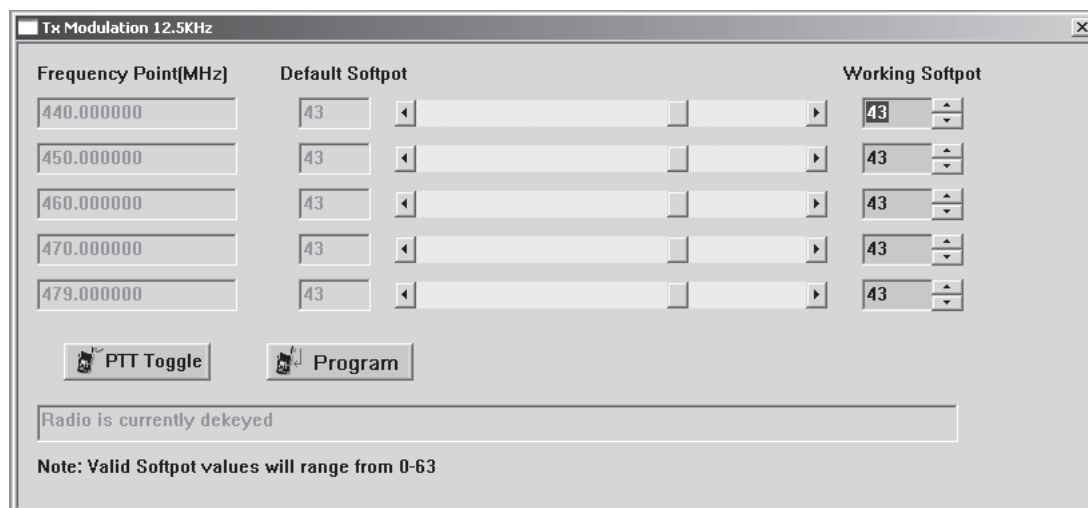

Figure 5-5. Tx Modulation 12.5 kHz Window
1. Under the **Alignment** menu, select **Tx Modulation**, then select **Mod. 12.5 kHz** (Figure 5-5. Tx Modulation 12.5 kHz Window).